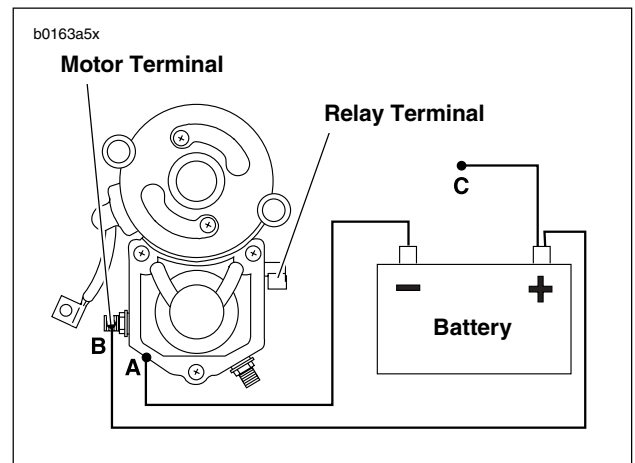

Figure 5-14. Return Test
1. See Figure 5-14. With test leads still connected in the manner specified at the end of the previous SOLENOID HOLD-IN TEST, disconnect solenoid relay terminal/positive battery post test lead (C) at either end.